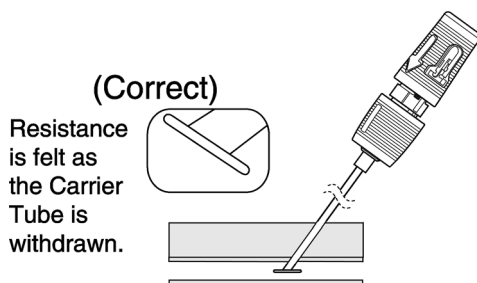
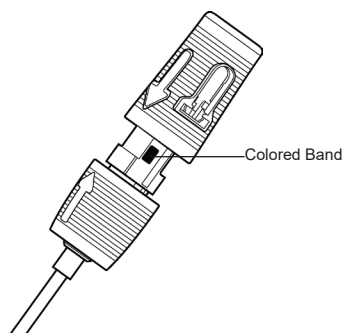

Fig. 9 (Correct)
Fig. 10
- Maintain grip on the insertion sheath and pull the device handle straight back into the full rear locked position (Figure 10). Resistance will be felt as the device handle and sleeve snap lock. The device sleeve colored bands should now be completely visible.
**NOTE: Do not proceed until you are certain that the anchor has been properly deployed (Figure 9). If the anchor is improperly deployed, the Angio-Seal device will not function.**
1. Once the anchor has been deployed correctly (Figure 9), and the device cap has been locked into the rear position (Figure 10), slowly and carefully withdraw the device/sheath assembly along the angle of the puncture tract to position the anchor against the vessel wall (Figure 12).